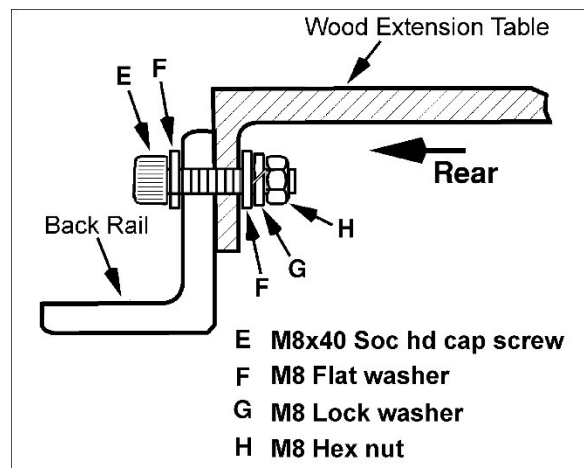

Figure 6-11
See Figure 6-11.
- Insert six socket head cap screws (E, Figure 6-11) and flat washers (F) through back rail and wood extension table, and secure with washers and nuts. *Finger-tighten only.*